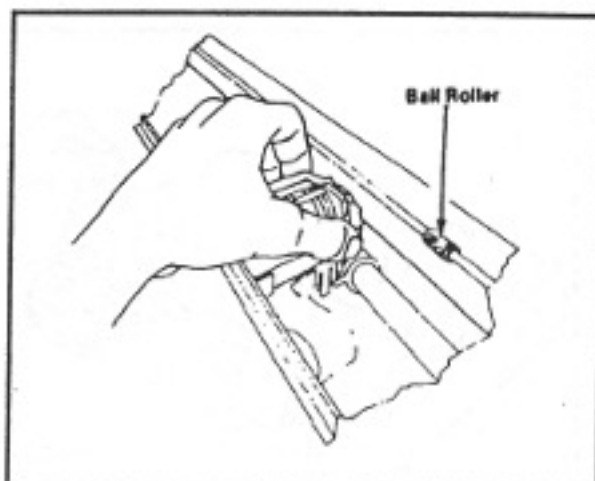

FIGURE 58. Grasp Cartridge Lift Up.
4. To remove the old ribbon cartridge, grasp it on either side of the printhead and lift up (Figure 58).